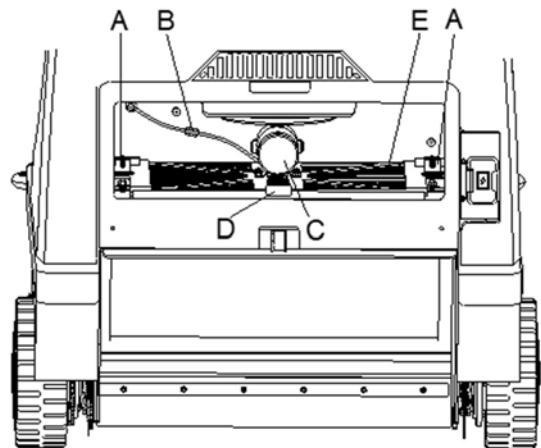

Figure 31
7. Unscrew the knobs (A, Figure 31).
8. Disconnect the filter shaker motor (C, Figure 31) connector (B, Figure 31).
9. Remove the dust filter fixing frame (D, Figure 31).
10. Remove the dust filter (E, Figure 31).
- Install the filter (E, Figure 31) with the wire gauze (B, Figure 32) facing upwards.